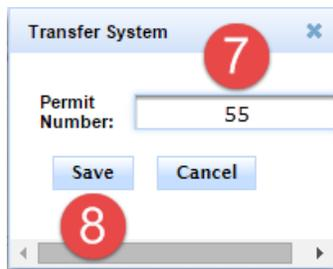

Figure 64: Transfer a System, Steps 7 and 8
6. Click **Transfer**. The **Transfer System** pop-up window appears, as shown in Figure 64.